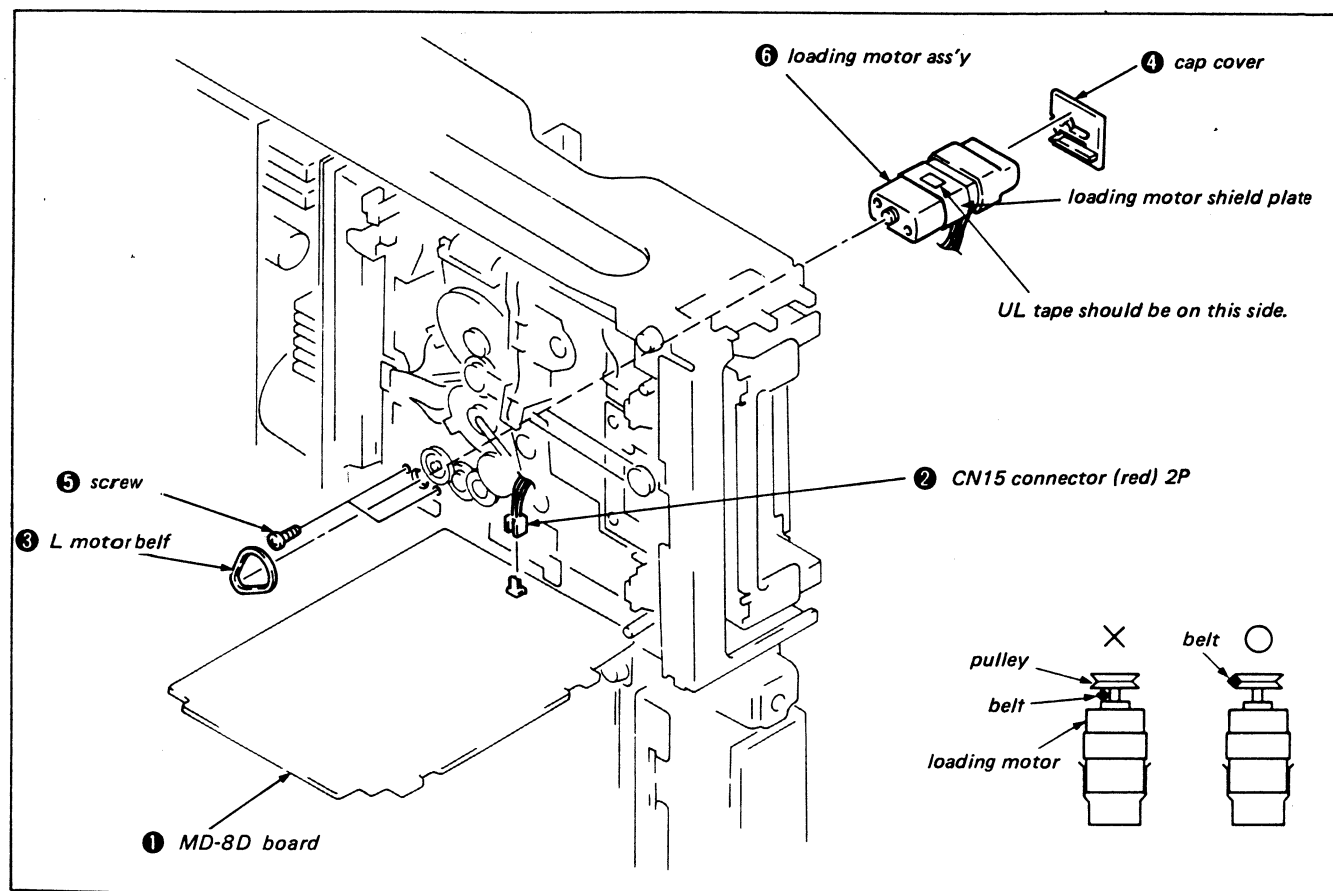

Fig. 3-6.
- 1) Open the MD-8D board ① according to item Section 2, 2-8.
- 2) Remove connector ② from MD-8D board ①.
- 3) Remove L motor belt ③.
- 4) Remove cap cover ④.
- 5) Remove the two screws ⑤ and the loading motor assembly ⑥. (See Fig. 3-6)
- 2) Wind the loading motor shield plate removed in step 1) around the loading motor assembly ⑥. (Refer to mounting diagram)
- 3) Mount the loading motor assembly ⑥ and tighten the two screws ⑤.
- 4) Mount the cap cover ④.
- 5) Mount L motor belt ③. (See Fig. 3-6)
- 6) Connect connector ② to MD-8D board ①. (See Fig. 3-6)
- 7) Mount MD-8D board ① by following the procedure in item Section 2, 2-8. in reverse.